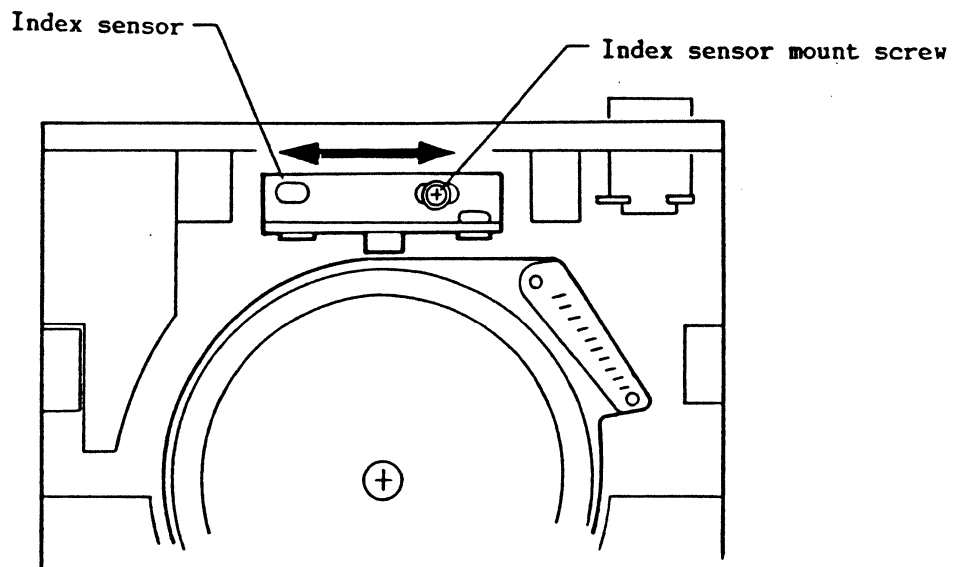

Fig. 417 Adjusting Index Sensor
- (6) Make sure the true value of index burst timing is within the range of $200 \pm 200 \mu \text{ sec}$.
- (7) If (6) is not satisfactory, adjust the index sensor position in the following procedure.
- (a) Loosen the setscrews for index sensor (see Fig.417), and perform adjustment so the true value of index burst timing is within the range shown in (6).
- (b) Repeatedly adjust the true value of index burst timing so it will be within the range shown in (6) when the setscrews have been tightened to a specified torque.
- (8) Remove the alignment disk.